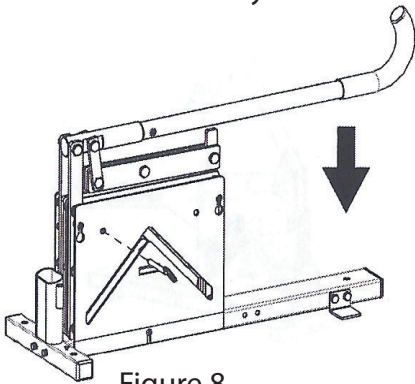

Figure 8
- 2) With the Handle in the full down position locate the hole that the Safety Pin inserts into and insert the Safety Pin. See Figure 8 Below: